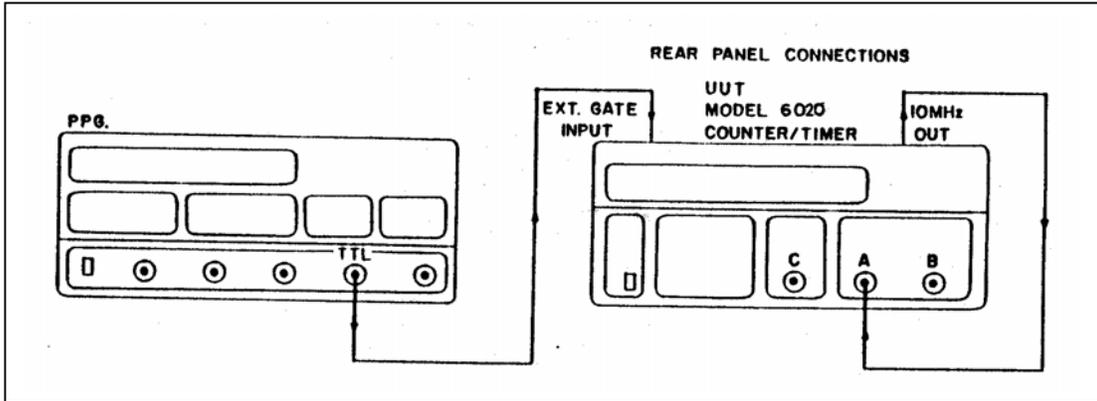

Figure 5-14. User Gate Test Set-up.
1. Connect the test equipment as described in Figure 5-14.